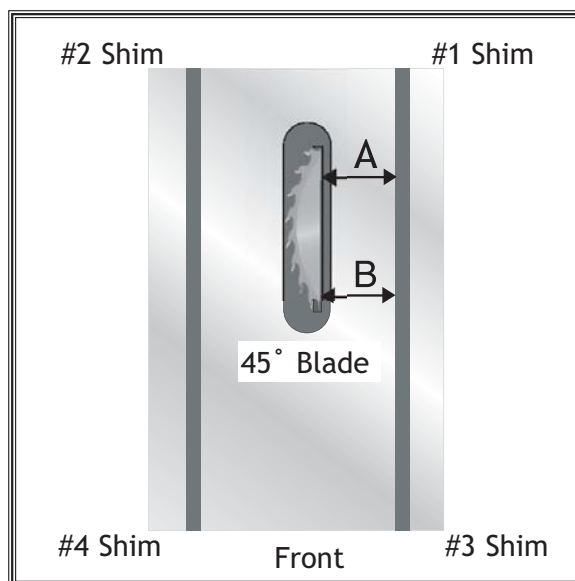

Figure 61. Shimming locations.
2. Use **Figure 61** to shim the trunnion according to the measurements taken in **Step 5 on Page 39**. Make sure you place the shim(s) between the table and trunnion.